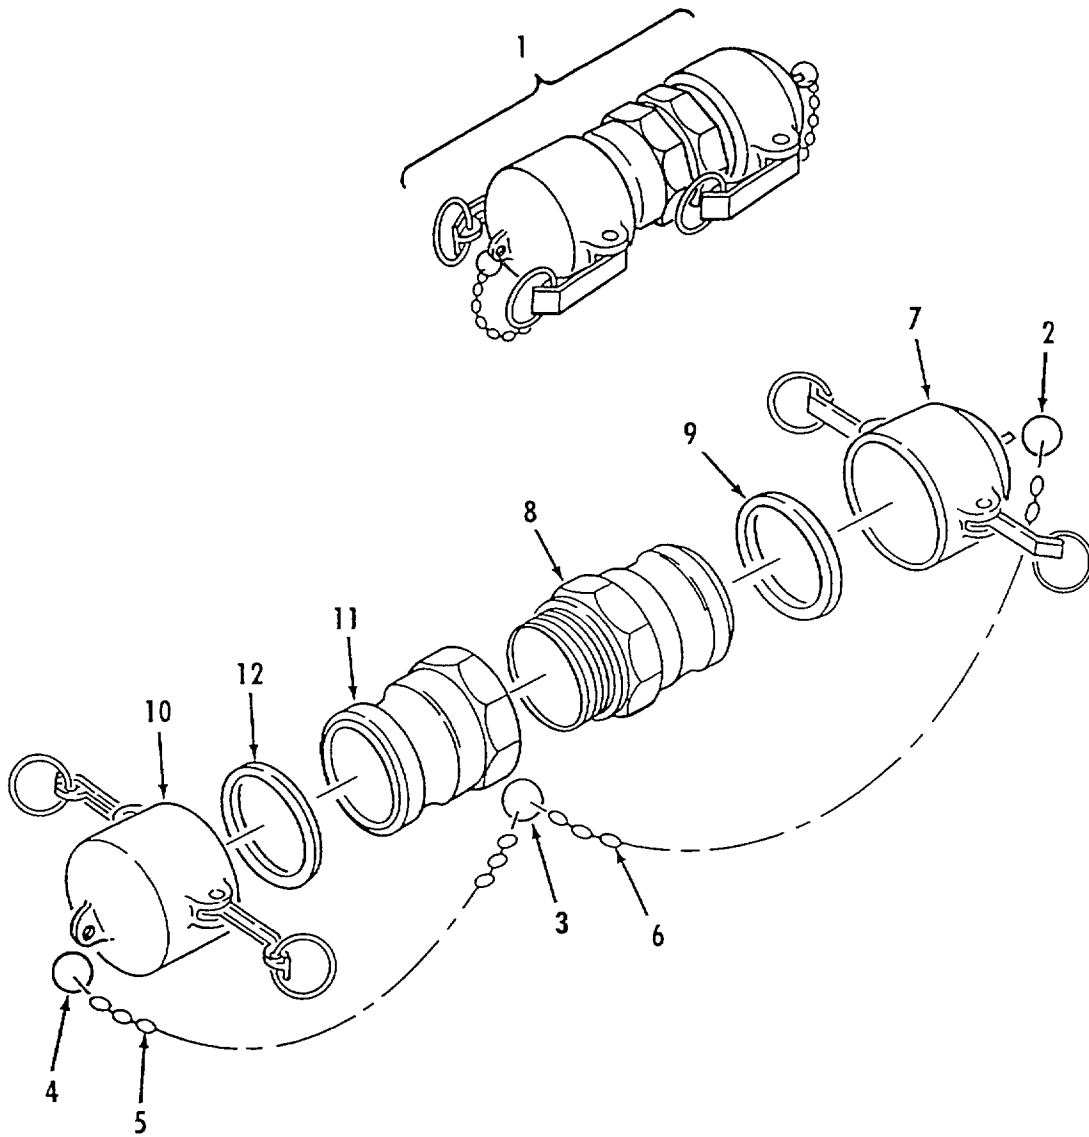

Figure 4-23. Adapter Repair.
a. Disassembly. Refer to figure 4-23.
- (1) Place adapter assembly (1) in vise.
- (2) Remove three split rings (2, 3, and 4) and chains (5 and 6).
- (3) Remove dust cap (7) from male coupling half (8).
- (4) Remove gasket (9) from dust cap (7).
- (5) Remove dust cap (10) from male coupling half (11).
- (6) Remove gasket (12) from dust cap (10).
- (7) Remove male coupling half (11) from male coupling half (8).
c. Repair. Replace damaged or defective parts and all sealing components.d. Assembly. Refer to figure 4-23.
- (1) Apply thread sealant to male threads of male coupling half (8).
- (2) Connect male coupling half (11) on male coupling half (8).
- (3) Install gasket (12) in dust cap (10).
- (4) Install dust cap (10) on male coupling half (11).
- (5) Install gasket (9) in dust cap (7).
- (6) Install dust cap (7) on male coupling half (8).
- (7) Install chains (5 and 6) and three split rings (2, 3, and 4).